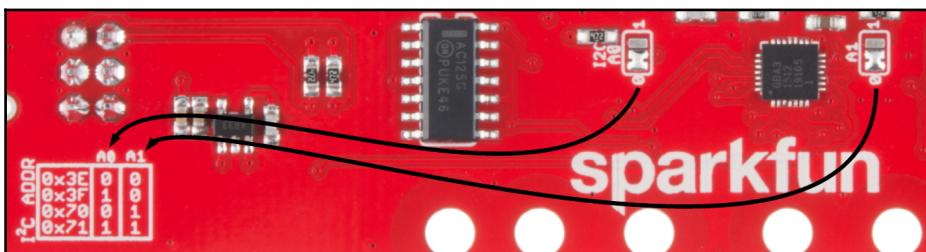

Figure 5.10: Selecting the I2C address. Image courtesy of SparkFun Electronics (<https://www.sparkfun.com>)
3. Then, you create an instance of SensorBar and connect it to the I2C bus with the address 0x3E. If you need to change the address of the array, move the solder jumper to set A0 and A1. The silkscreen table gives a reference. The default address is 0x3E (*Figure 5.10*). For example, if you want to use address 0x3F, move A0 to the 1 position and leave A1 at 0: